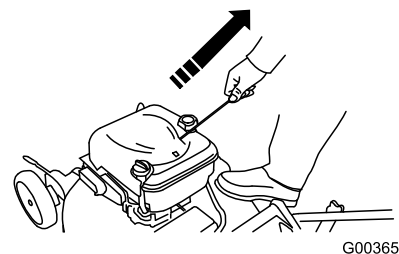

Figure 22
- Pull the recoil starter at the engine (Figure 22).